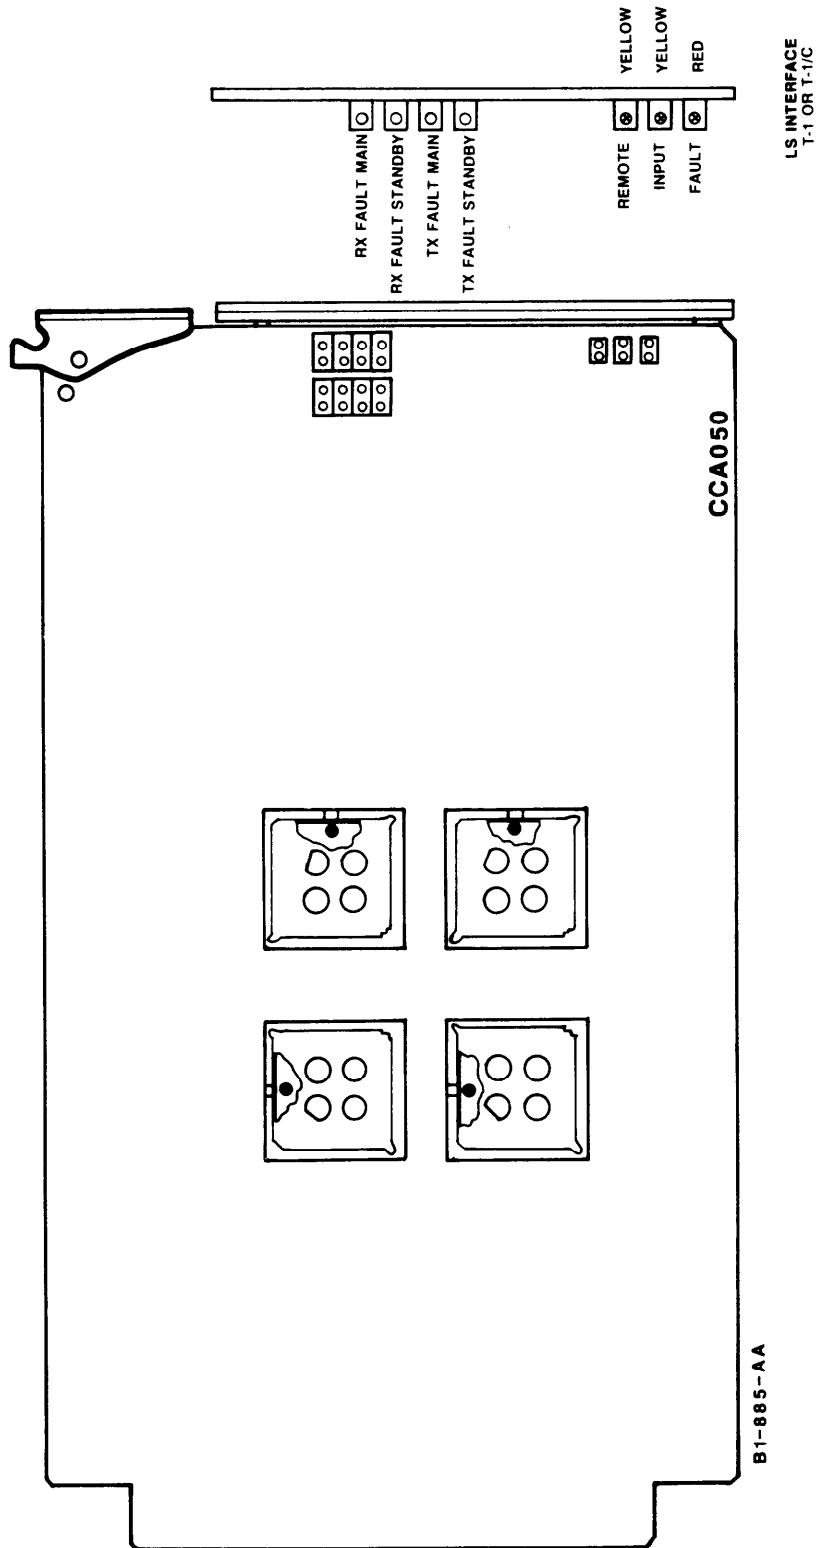

Figure 1. T1 LS Interface Card CCA050G1
1.01 This subsection presents a functional description of the T1 LS Interface cards, used in the FOX-2. See Figures 1 and 1A, for views of the T1 LS Interface card. Figure 2 contains a block diagram of the T1 LS Interface card circuits. TABLE A describes the LEDs and Switches found on this card.